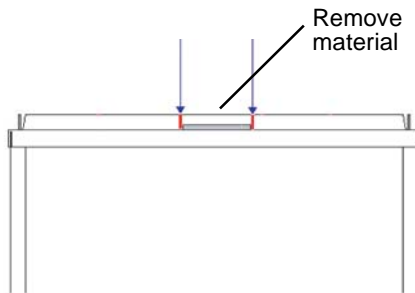

Figure 8
3. Cut 2 the front duct flange at the ends of the filter rack cutout and remove the material between the two notches. See Fig. 8.